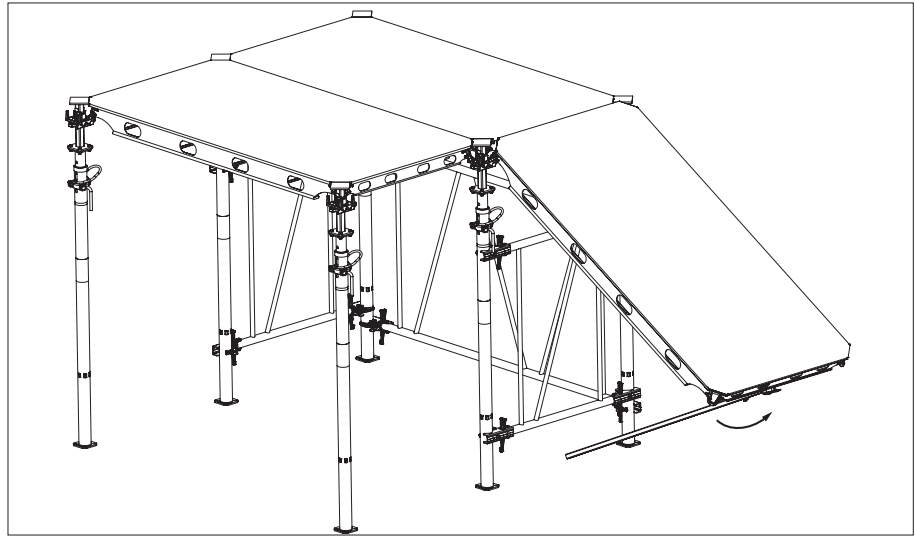

Fig. A5.09
2. Using the shuttering aid, swing the panel up supporting it temporarily until the next two props are installed. (Fig. A5.09)